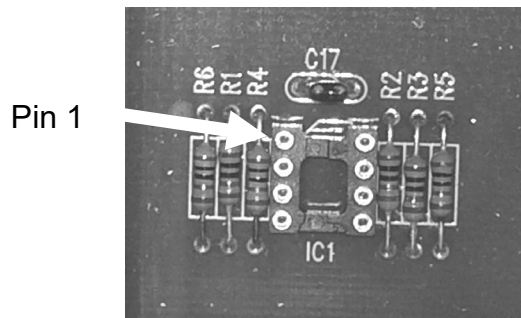
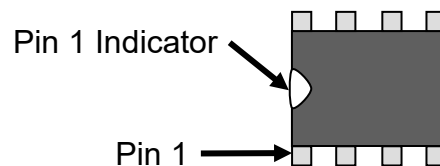

Figure 7
Figure 8
15. Unlock the Power Logic board, disconnect the two (2) ribbon cables from the top of the Power Logic board and remove from the board from the card cage.
16. Locate the 8-pin chip socket between the Power Logic board and the Actuator-Test board (see Figure 7)
17. Using the pin 1 locator indicated in Figure 7 and Figure 8 and install the Motherboard EEPROM included in the kit